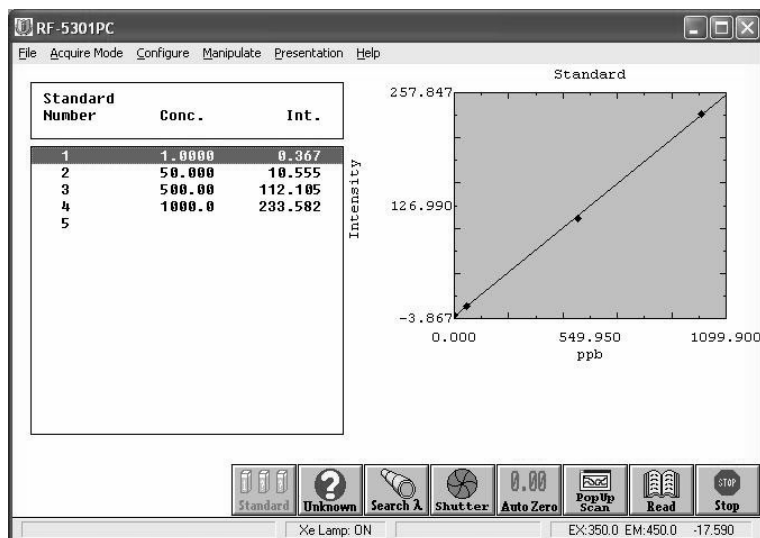

Fig. 5.6 Screen after standard data is entered
- (3) Upon completion of the specification of all the parameters, click the <OK> button to enable the settings.
- (4) Load a cell filled with blank sample into the cell holder and click the <Auto Zero> button to establish the zero point.
- (5) Load the first standard sample into the cell holder and click the <Read> button. The Standard Sample Data Edit dialog box will appear. Enter the concentration value of the standard sample and click the <OK> button.
- (6) Repeat step 5 above for the second standard sample onwards. Once data from a sufficient number of standard samples is acquired, the working curve will be created automatically and displayed on the screen. To automatically scale the graph, select [Radar] and then [Both Axes] from the menu appearing after clicking the mouse's right button. The screen will appear as illustrated in Fig. 5.6.